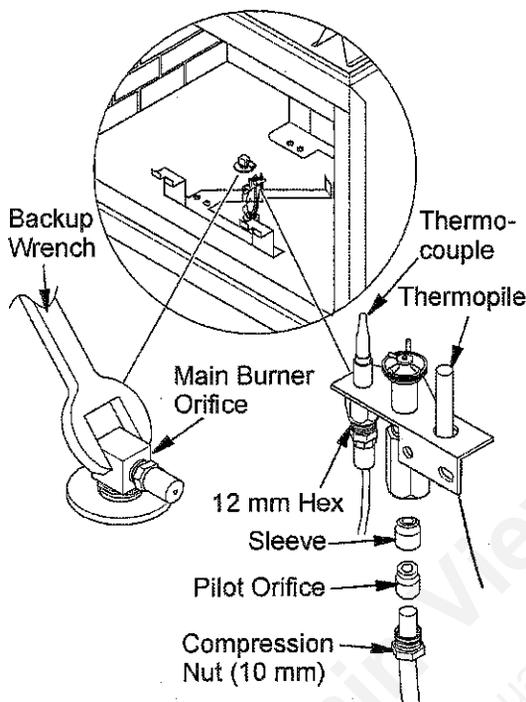

Figure 4 - Removing/Replacing Orifices
1. Using a 7/8" open end or adjustable back-up wrench, hold orifice mount while removing main burner orifice with an 11/16" open end wrench (see Figure 4).
1. Convert pilot burner by changing orifice. Remove compression nut using a 10 mm open end wrench and a 12 mm back-up wrench (see Figure 4).